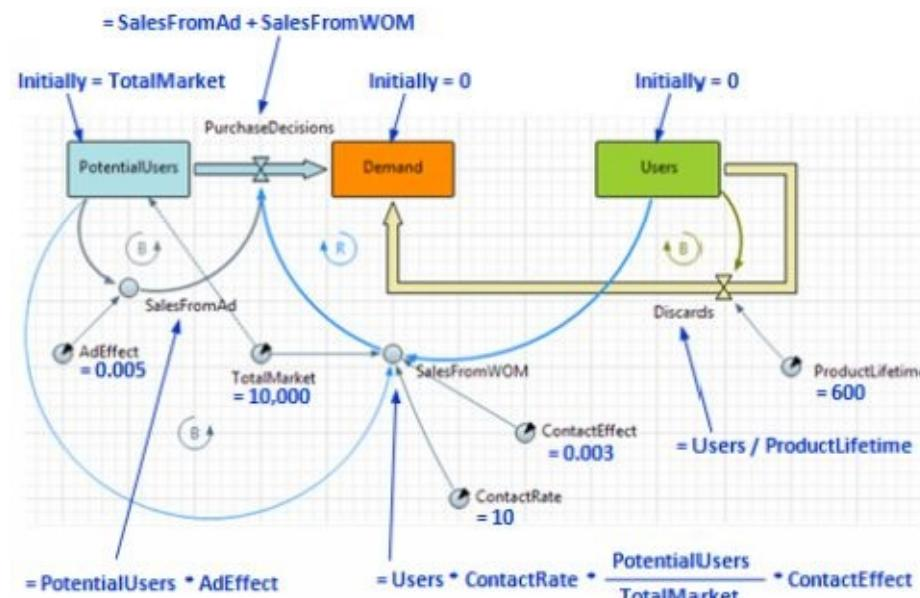

Figure 6.20 The system dynamics model of the market (the modified Bass model)
6. Add the time stack chart and the time plot of the data items as shown in Figure 6.20. Set the **Time window** of both charts to 200 and let the charts **Display up to** 200 items collected every time unit.